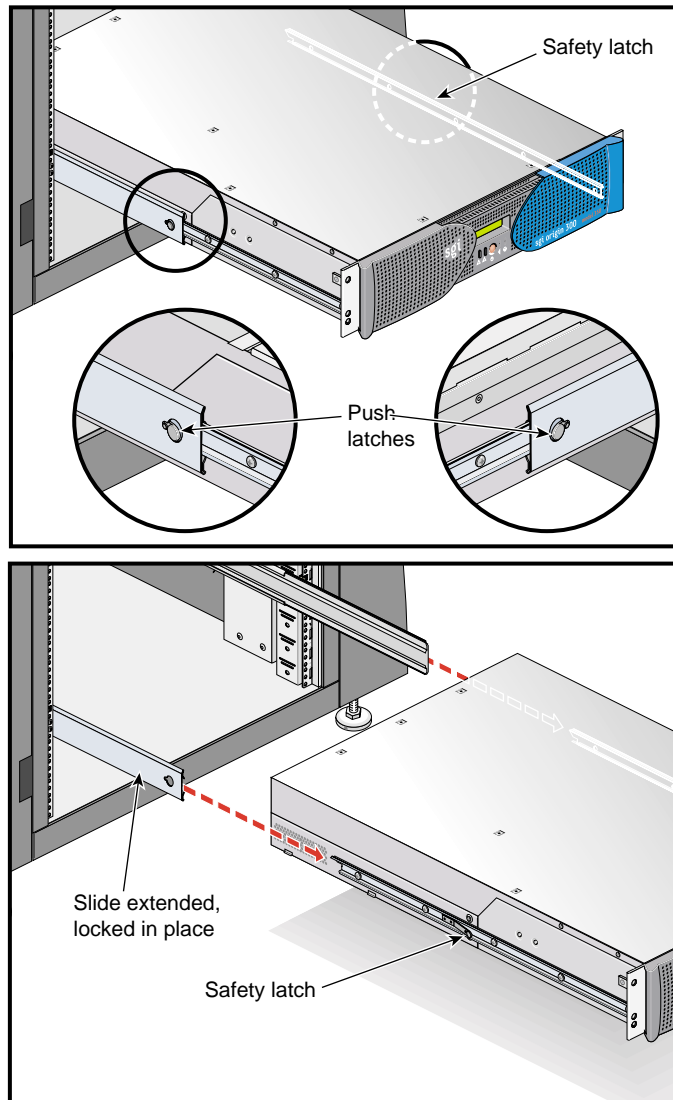

Figure 1-21 Releasing the Safety Latches
5. With one person holding each side, release the safety latches on both sides of the module and pull the module out of the slide rail (see Figure 1-21).